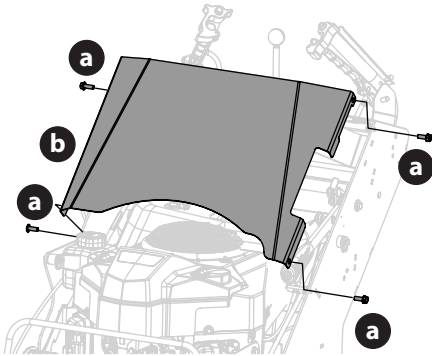

Figure 25
1. Remove the four screws (a) that secure the front panel (b) and remove the front panel (b) (Figure 25).